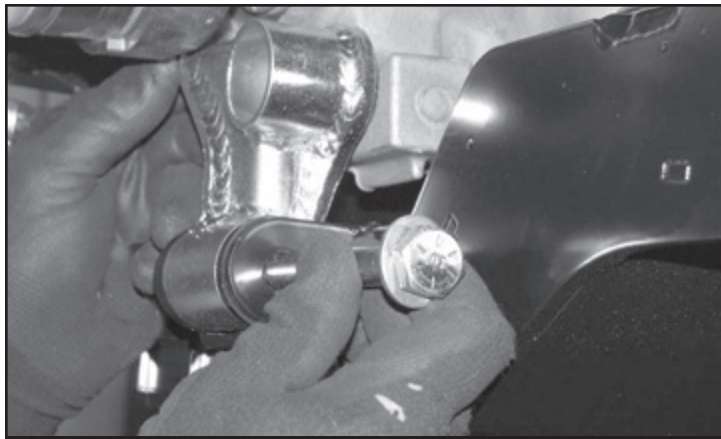

FIGURE 33 - STEP 30
30. Install the rear diff bracket into the tabs on the rear crossmember using a ½-13x4" bolt, washers, and nut. **SEE FIGURE 33**